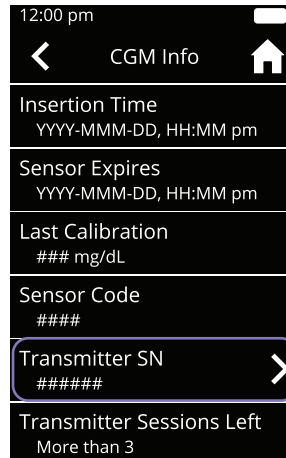

Figure 79
- d. Tap **Transmitter SN** (see Figure 79)